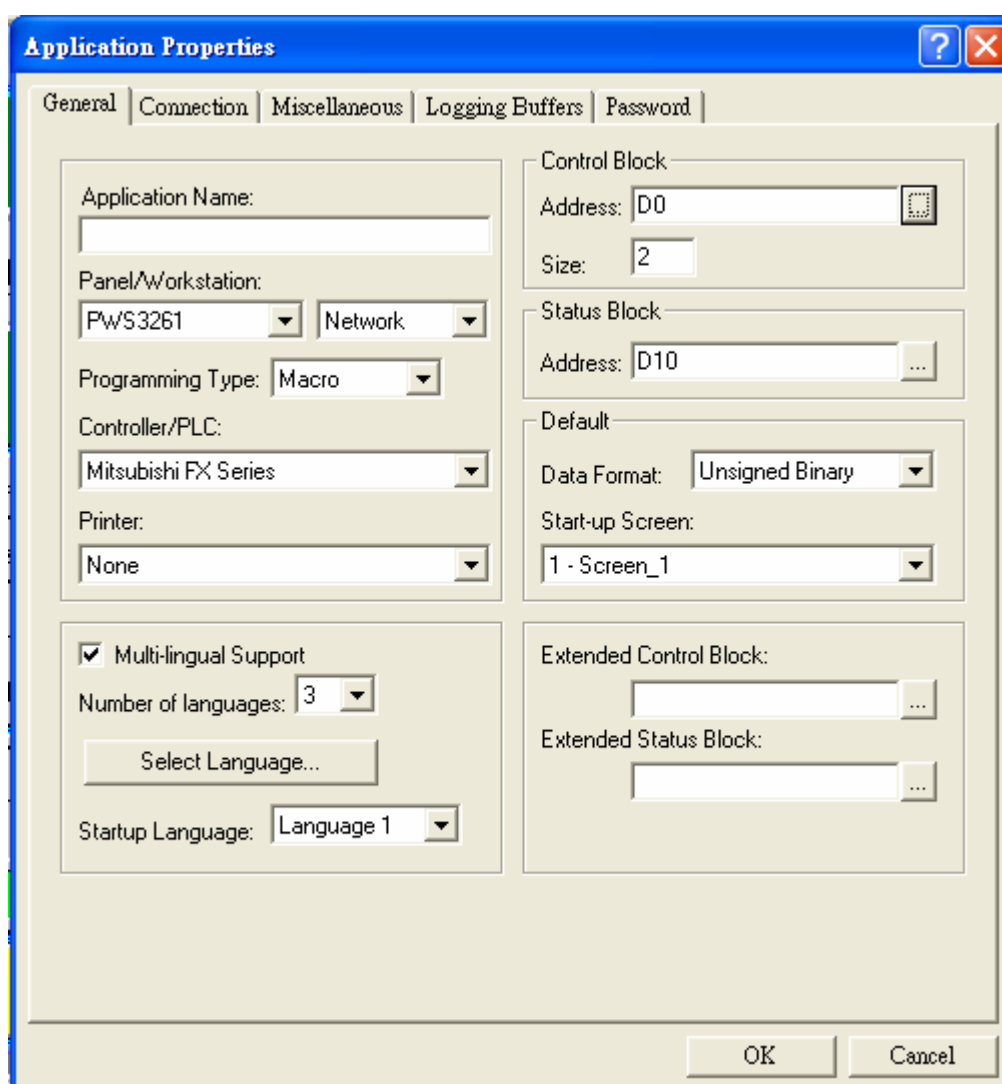

Figure 229. Select the Type of the First PLC
1. In ADP, select [File]/[New]. The [New Application's Properties] dialog box is displayed. On the [General] tab, select the type of the **first** PLC from the [Controller/PLC] list, for example, "Mitsubishi FX Series." See Figure 229.